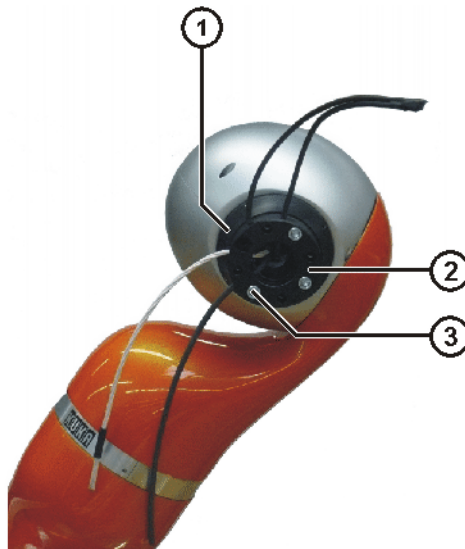

Fig. 8-5: Removing the cable adapter flange
5. Remove 3 Allen screws from the cable adapter flange and remove the cable adapter flange (>>> Fig. 8-5).